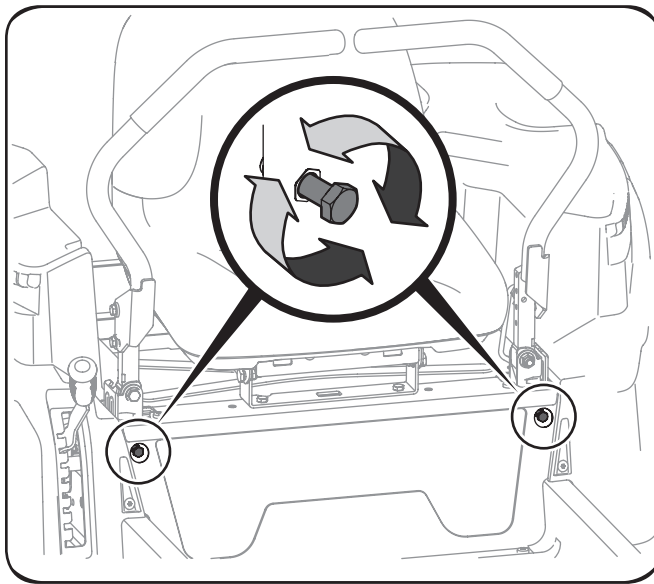

Figure 6-7
2. Locate the drive control lever stop adjustment bolts on the front of the seat frame. See Figure 6-7.